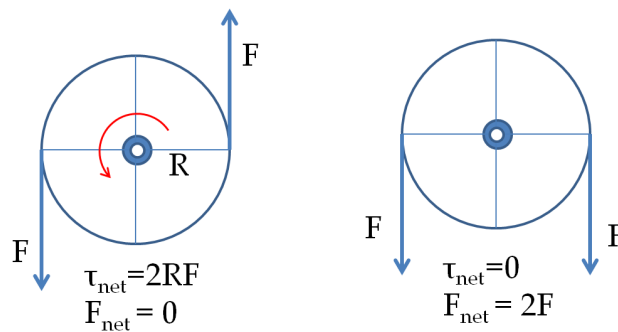

Figure 5.37: Torque versus force.
3. There can torque on a system even when net force is zero. For instance, if you apply equal magnitude forces in the opposite directions on opposite ends of a wheel, the net force will be zero, but the net torque about the center will not be zero (see Fig. 5.37).
4. Net force on a system may not be zero even when torque is zero. For instance, if you apply equal forces on opposite ends of a wheel, the net torque about the center will be zero, but the net force will not be zero (see Fig. 5.37).